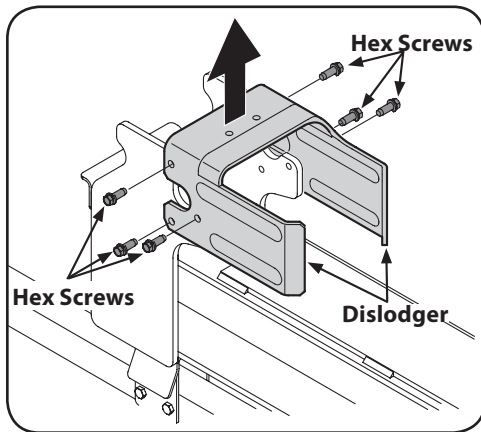

Figure 2-4
14. Disconnect the dislodger from the beam weld bracket by removing the six hex screws. See Figure 2-4.
17. Attach the dislodger over the wedge assembly and secure it to the weld brackets with the hardware removed in step 14. See Figure 2-4.